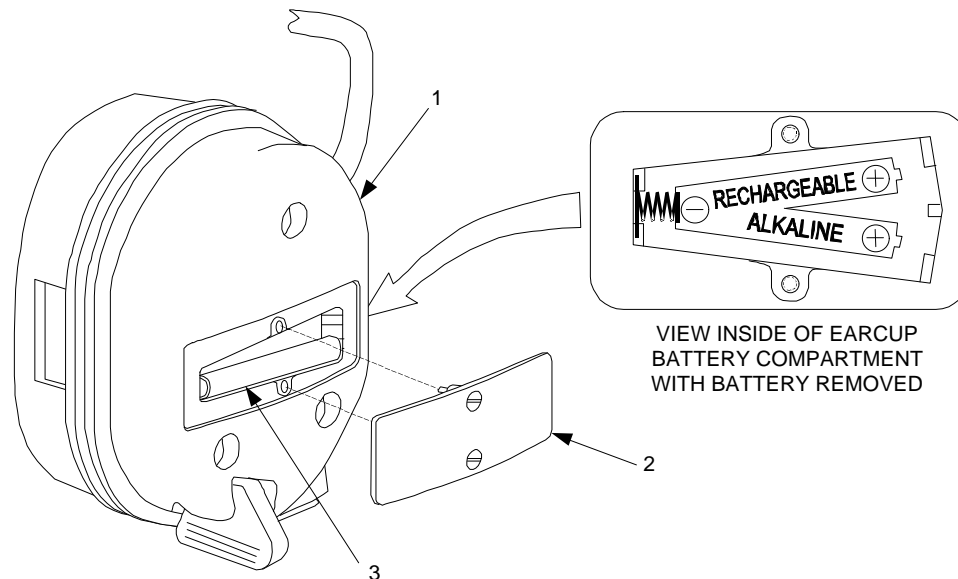

Figure 3-17. Battery and Battery Cover
1. Position switch cover (2) on toggle switch assembly.
2. Apply pressure on switch cover (2) until it snaps into place on toggle switch assembly.
3.8.7 Battery and Battery Cover Removal and Replacement Procedure (PICVC Headset only) (Fig. 3-17)